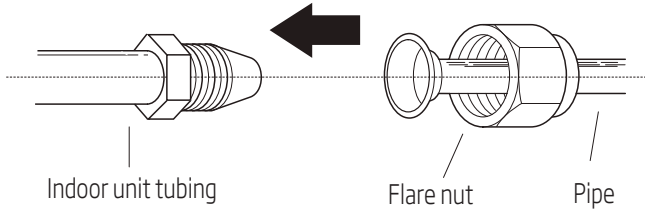

Fig. 3.7
1. Align the center of the two pipes that you will connect. See Fig. 3.7.